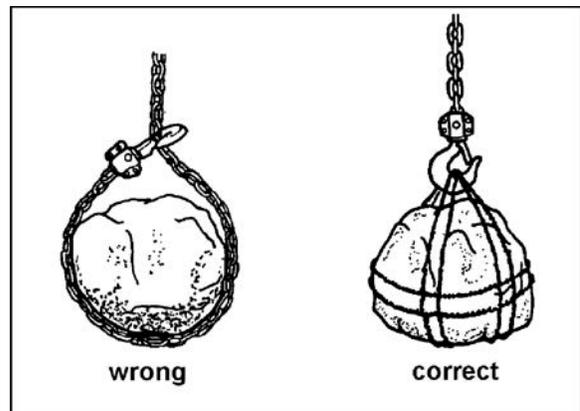

Figure 8
- When lifting loads, hook the load with slings. **Do not use the lever hoist chain as a sling** (Figure 8).
Carefully inspect the entire load chain. As illustrated in Figure 8, measure five consecutive links with calipers to find the length. Compare the results with the table in Figure 8. Check every three feet and especially where excessive wear is indicated. Any load chain that shows noticeable deformation or heat influence must be replaced with a new one.